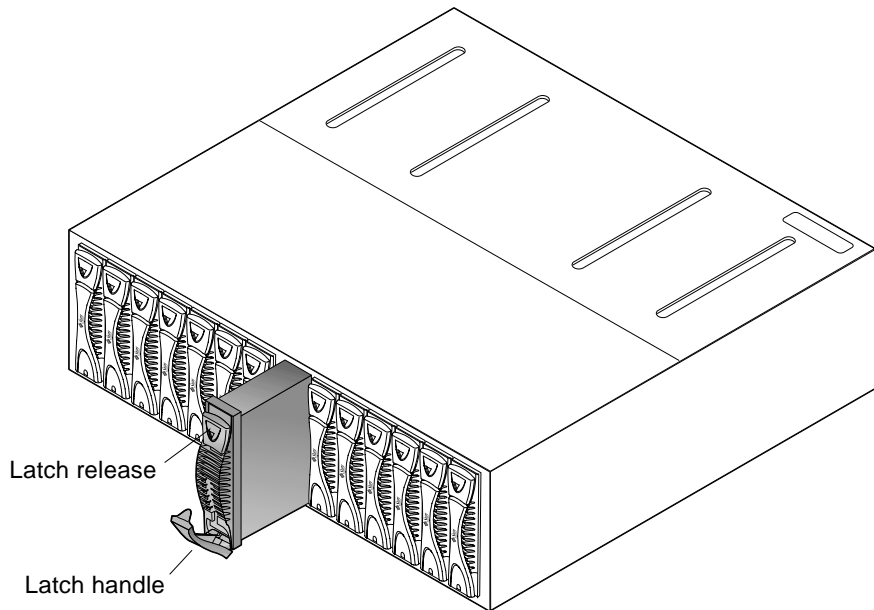

FIGURE 6-8 Removing a Disk Drive
3. Push down on the latch release to open the drive latch handle (FIGURE 6-8).